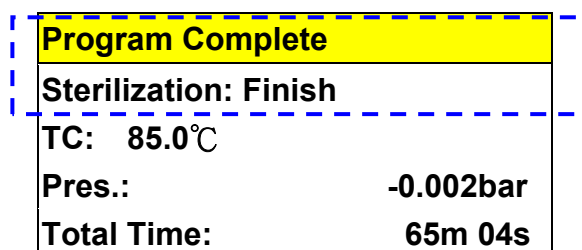

Figure 106- Program Complete
- G. On completion, the buzzer will sound and the Program Complete message is displayed as shown in Figure 106.